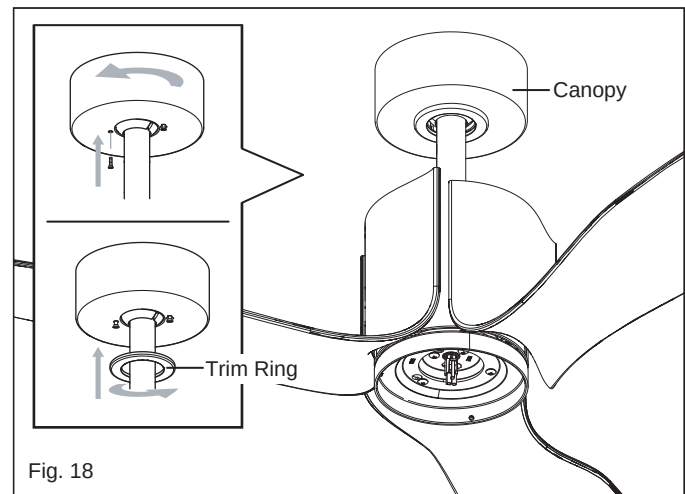

Fig. 18
- 3 Slide the canopy up to the hanger bracket and place the key hole on screw on the mounting bracket, turn canopy until it locks in place at the narrow section of the key holes. Align the circular hole on the canopy with the remaining hole on the mounting bracket, secure by tightening the two set screws. Align the inner larger end of the key hole of the trim ring to the canopy screw and slide counterclockwise to tighten the trim ring. (Fig. 18)